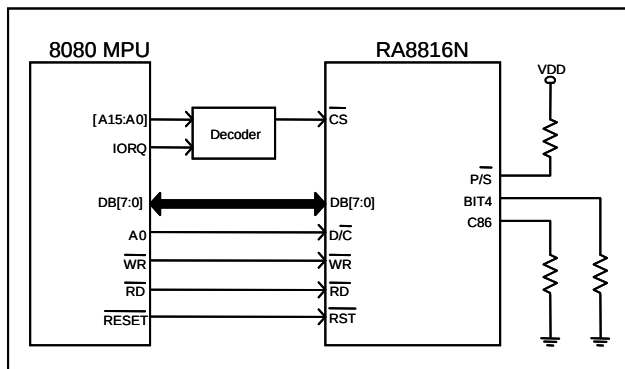

Figure 5-1 : 8080 MPU 8-bit Mode
1. 8080 MPU 8-Bit Parallel Mode. See Figure 5-1.